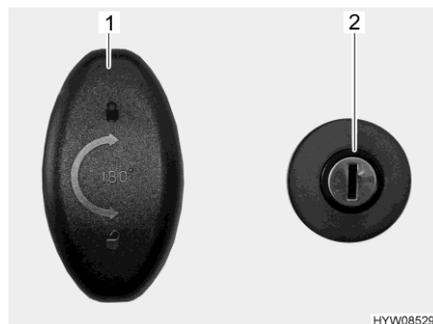

Fig. 51 Door lock (garage door)
- Put the key in the locking cylinder (Fig. 51,2) and turn in a clockwise direction. The central locking system is unlocked.
- Turn the lock handle (Fig. 51,1) through half a rotation in a clockwise direction and open the garage door.
- Turn lock handle (Fig. 51,1) one half turn in an anticlockwise direction.
- Insert the key in the locking cylinder (Fig. 51,2) and turn it in an anticlockwise direction. The central locking system is locked.